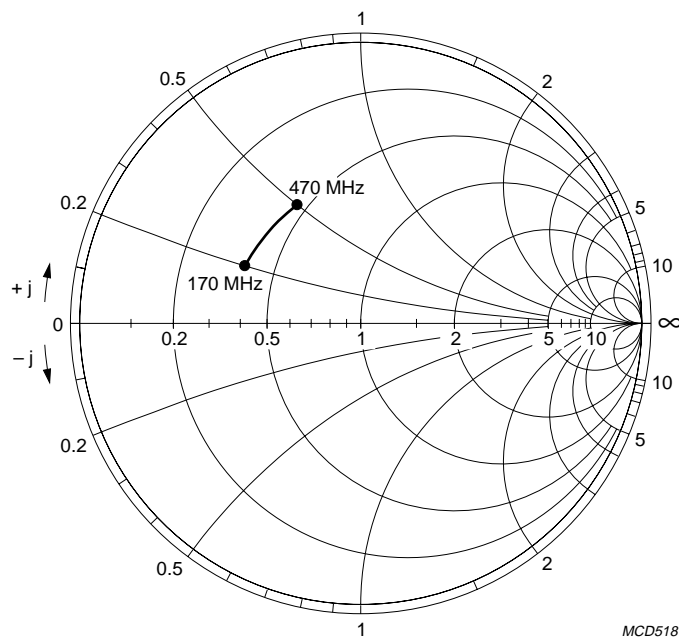

Fig.8 Input impedance (S_{11}) of the band B mixer input (170 to 470 MHz) (Z chart).
- The gain is defined as the transducer gain (measured in Fig.8) plus the voltage transformation ratio of L7 to L8 (5 : 1, 15.4 dB).
- The capacitors in the oscillator circuits of Fig.8 are as follows:
Components values for Fig.8